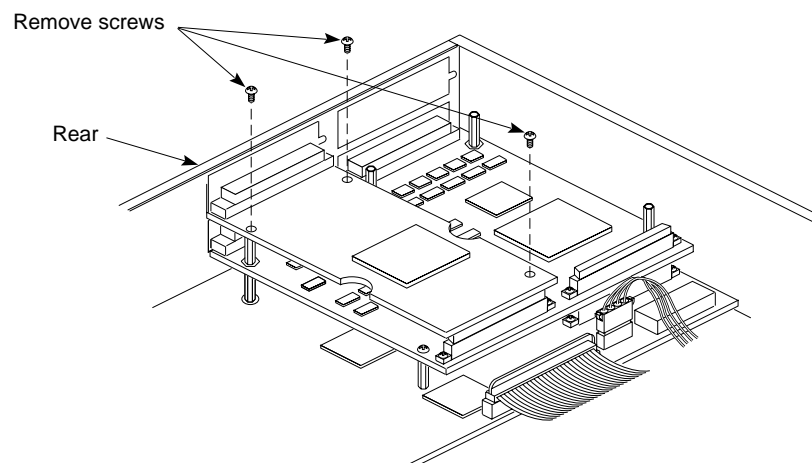

Figure 9-6 Removing the Screws From the GIO Option Board
8. Using a Phillips screwdriver, remove the screws that connect the GIO option board to the lower board, as shown in Figure 9-6.